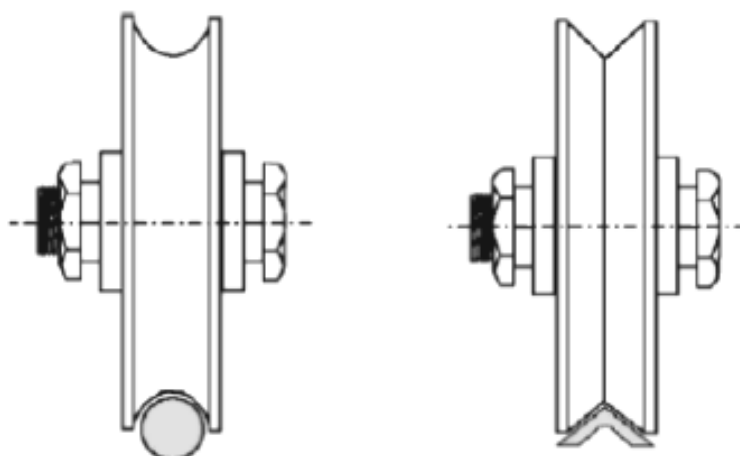

Fig. 4
- Check that the wheels ( **Fig. 4** ) used are suitable for the type of runner on the ground